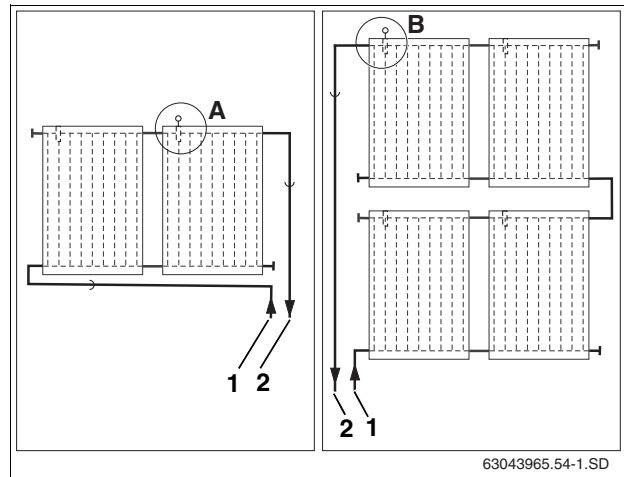

Fig. 47 Collector sensor installation location (schematic)
Observe the installation location for single or dual row collector systems (Fig. 47).
The collector sensor must be installed in the collector connected to the supply line (Fig. 47, [2]).
- Location (Fig. 47, [A]) for single row collector systems with right-hand supply line.
- Location (Fig. 47, [B]) for multi-row collector systems with left-hand supply line.